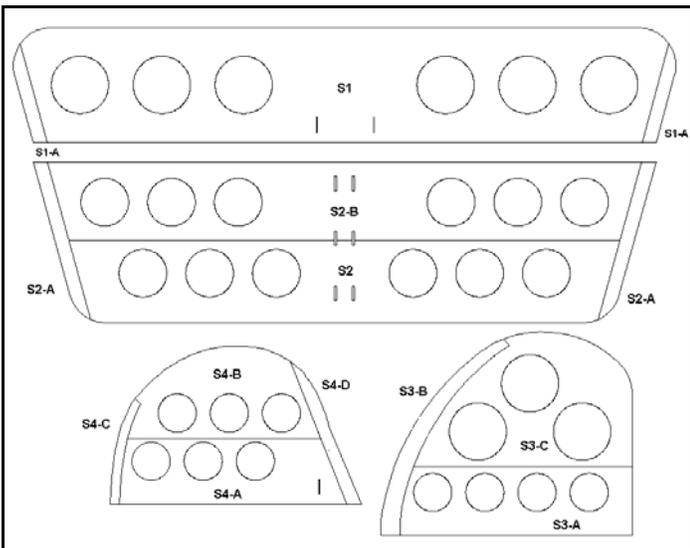

Figure 19
19. Join tail surface pieces as shown in Fig. 19.